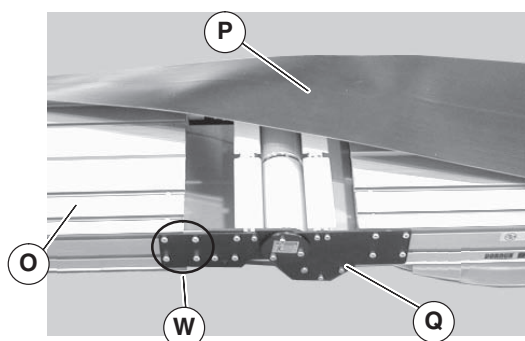

Figure 7
3. Roll out conveyor belt (Figure 7, item P). Loosen (4) screws (W) on both sides of knuckle (Q). Slide frame (O) into knuckle (Q). Tighten screws (W) to 60 in-lb (7 N-m) on both sides of conveyor.